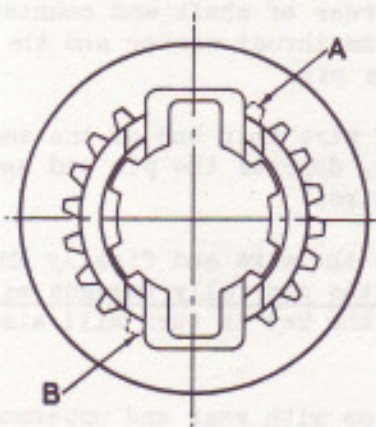

FIG. 8. REAR END VIEW OF SLIDING PIECE.
- (vii) On the early type sliding piece 30, Fig. 3, there are two non-full teeth 'A' and 'B' Fig. 8, (shown in dotted lines) at the rear end i.e. the end which has the least number of teeth and which engages with the 3rd speed gear (26). These two teeth should be removed by grinding. It may be found however, that they have already been removed. If a new 3rd motion shaft with strengthened splines is to be fitted, as described in paragraph 5, then the above mentioned operation will not be necessary, as the existing sliding piece will have to be replaced by a new one of slightly different design.